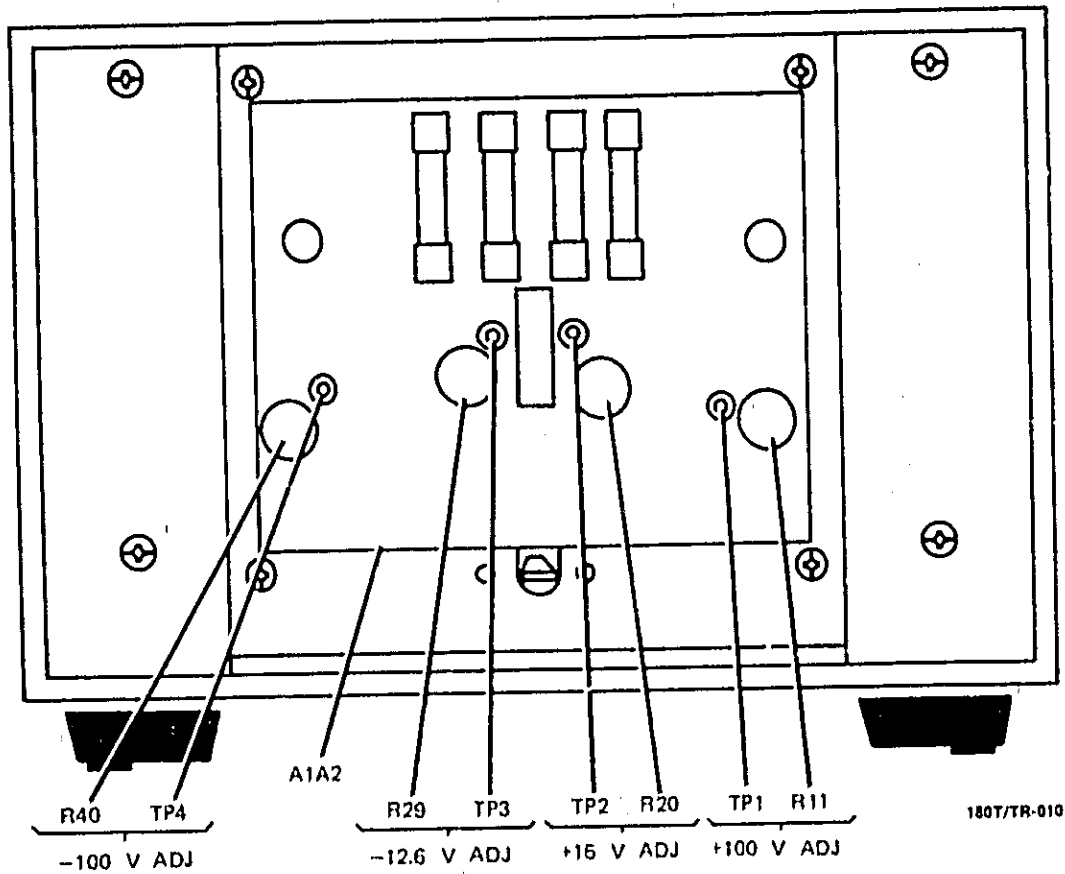

Figure 5-5. Low Voltage Power Supply Adjustments
- a. Using digital voltmeter measure voltages at test points listed in table 5-2. Adjustment locations are shown in figure 5-5.